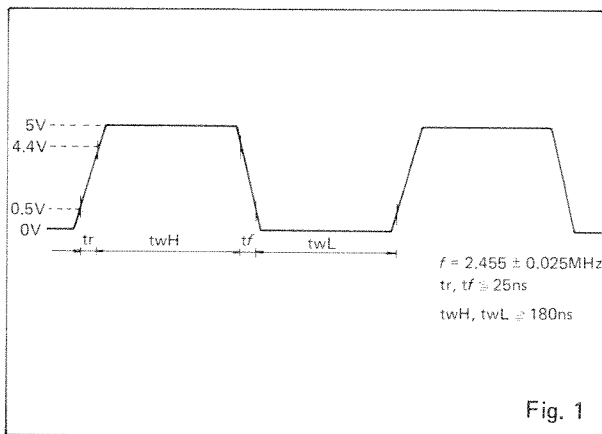

Fig. 1
The clock waveform is outlined in Figure 1 below.
1. Waveforms as shown in Figure 1 should be obtained when the key is depressed.